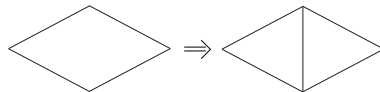

Figure 64–6 Split a quadrilateral element into two triangular elements.
- Combine two adjacent triangular elements into one quadrilateral element, as shown in Figure 64–7. You can combine either first- or second-order elements, but you cannot combine a combination of both. In addition, you can combine elements only if the adjacent triangular elements have consistent normals. If necessary, you can flip the normals to make them consistent.